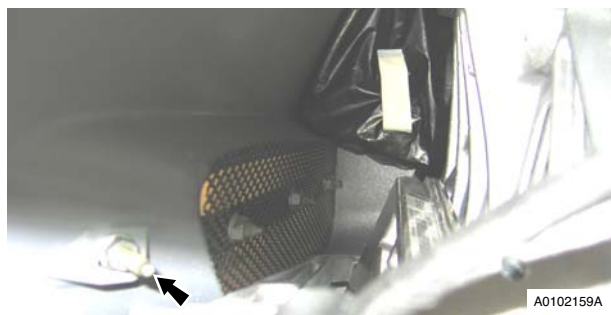

Figure 11
16. Remove side strake (nut x1) glued (see Figure 11).